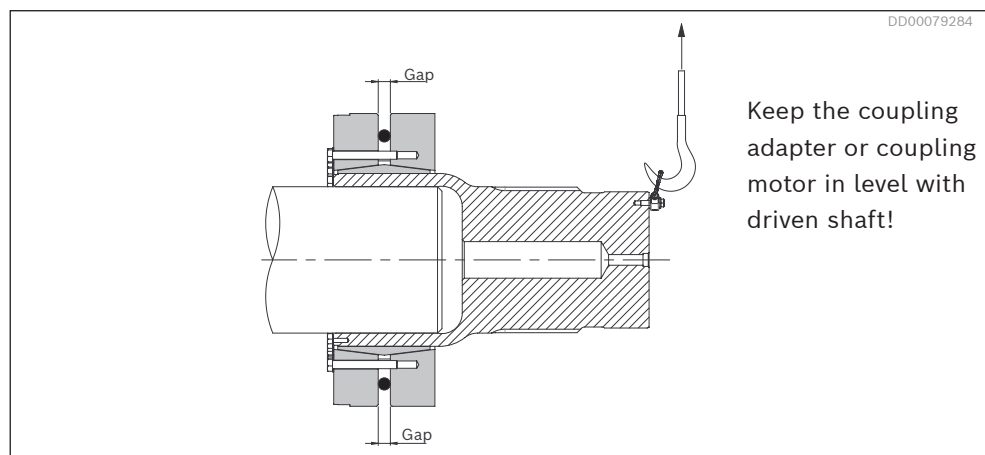

Fig. 44: Gap between the clamping rings
2. In order to avoid misalignment of the two clamping rings during the tightening of the screws, the gap between the rings must be measured in several places during the process, see *Fig. 44*. The difference between the measured gaps must never vary more than 1 mm (0,04") during any stage of the tightening process.